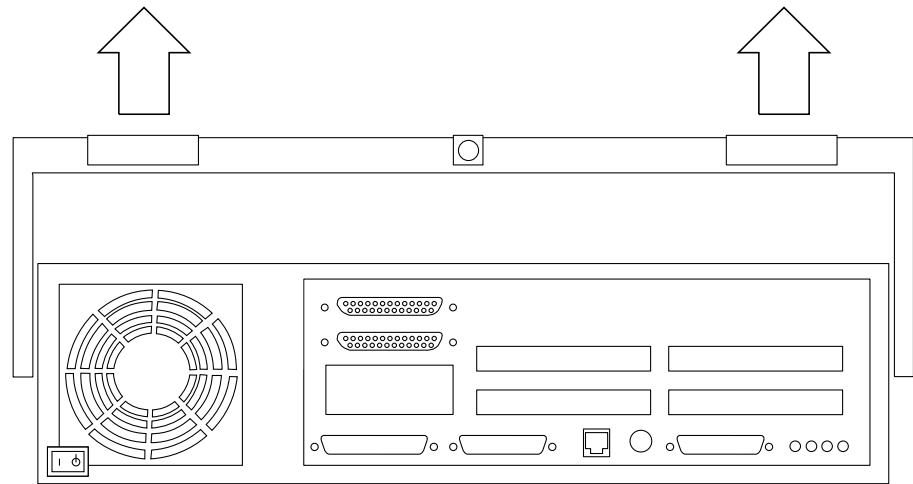

Figure 2-4 Lifting the Top Cover
3. Lift the top cover so that it clears the chassis, and push the cover forward so that it clears the chassis (Figure 2-4).